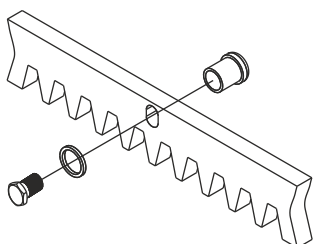

Fig. 8
5.2. Fix on each gear rack element the support pawls with the appropriate lock screws, making sure to put them in the upper part of the hole - Fig. 8;